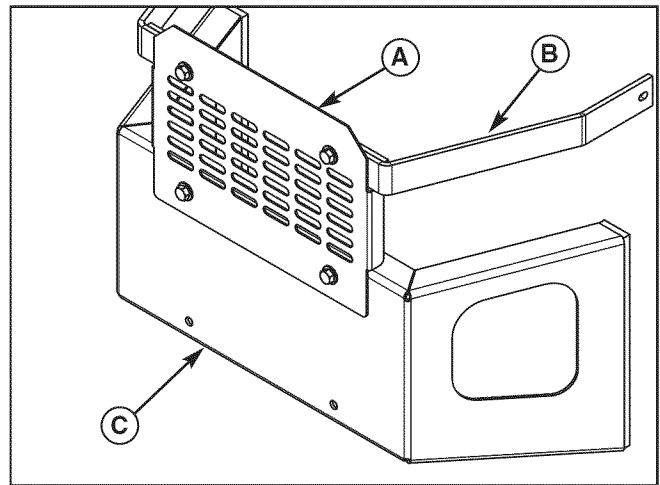

Figure 31. Remove Bumper Screen
1. Remove the hardware securing the rear bumper screen (A, Figure 31) to the top and bottom bumpers (A, B). Save the 3/8" bolts and washers from the lower bumper.
3. Install the 3/8-16 x 1-1/2" bolts and 3/8" washers (C) through the top mount holes as shown in Figure 31. Install the support bar (D) and secure with the 3/8-16 nylock flange nuts (E).